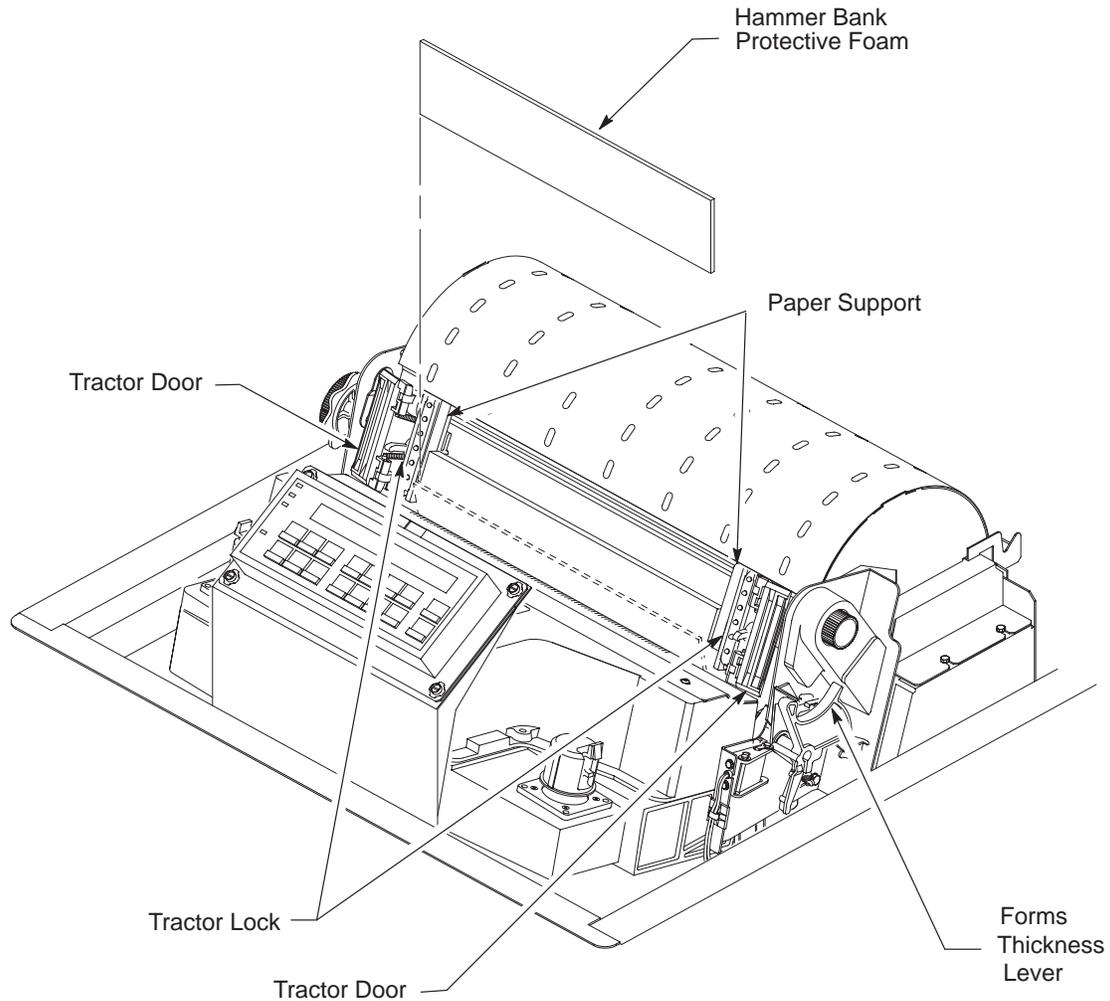

Figure 2–6. Removing the Hammer Bank Protective Foam
1. Open the tractor doors. Push the tractor locks down. Slide the tractors and paper supports outward as far as they will go. (See Figure 2–6.) The forms thickness lever should be in the fully open (raised) position.